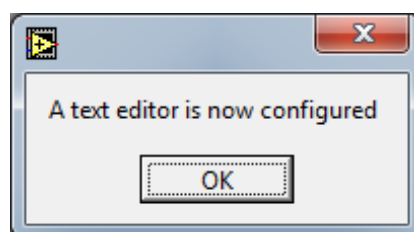

Figure 41 This message box indicates that a text editor has been successfully configured.
5. The message box shown in figure 41 appears when WordPad or Notepad has successfully been configured as text editor. Click OK and proceed to define the font for the text editor.